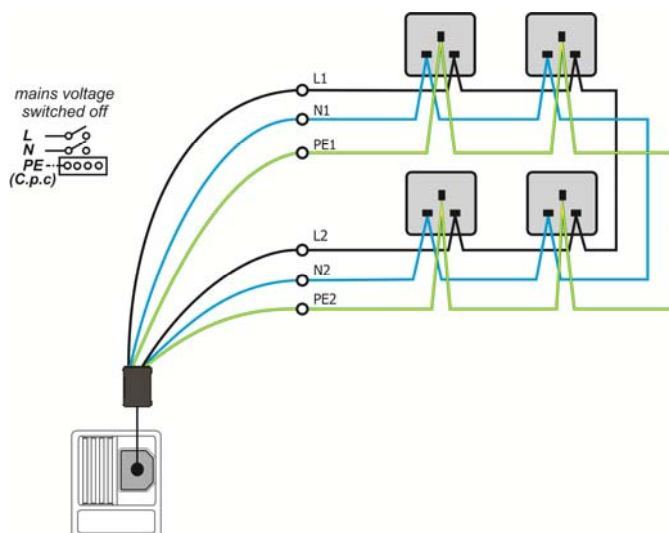

Figure 5.21: Step 1 – measurement of resistance r_1 , r_2 and rN
- ❑ **Connect** Easy switch to the instrument (see Figure 5.21:).
- ❑ **Connect** Easy switch to the final ring circuit. The electrical installation must be de-energized during the test. (See Figure 5.21:)